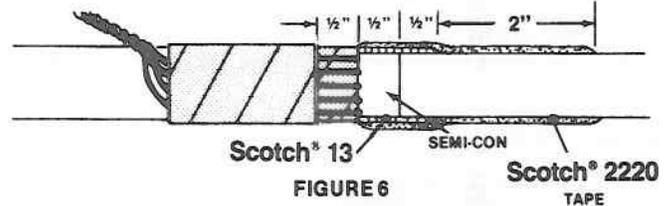

FIGURE 6
3. Wrap two half-lapped layers of 13 Tape to 1/2" beyond cable semi-conducting material. Begin and end taping at front end of wire shielding. See Figure 6.
1. Wrap two half-lapped layers of 2220 Tape over 13 Tape and 2" beyond 13 Tape on cable insulation. See Figure 6. STRETCH TAPE TO 3/4 OF ORIGINAL WIDTH.